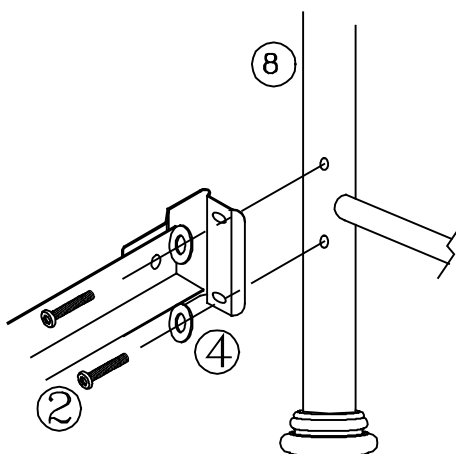

FIGURE 3
- Position footboard panel (8) and align holes in the post with holes in the frame bracket. (See figure 3)
- Place flat washer (4) on each screw (2). Insert through bracket and into post. Hand-tighten, DO NOT TIGHTEN screws all the way.
- Tighten all screws securely using the Allen wrench (5).